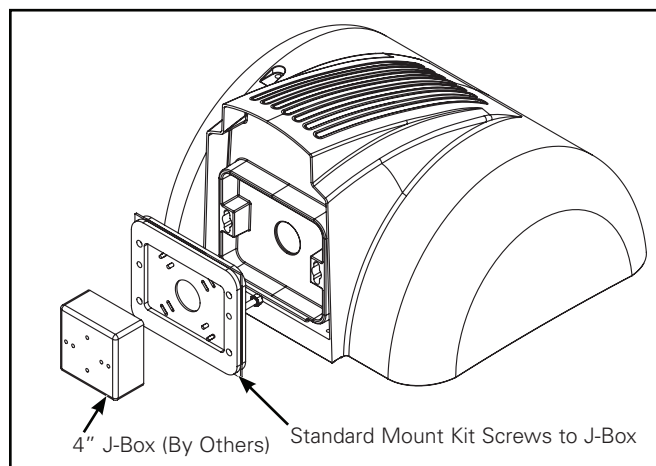

Figure 1. Standard Mount
1. Standard Mount—mounts to any standard 4" junction box (Included with every fixture) (Figure 1).